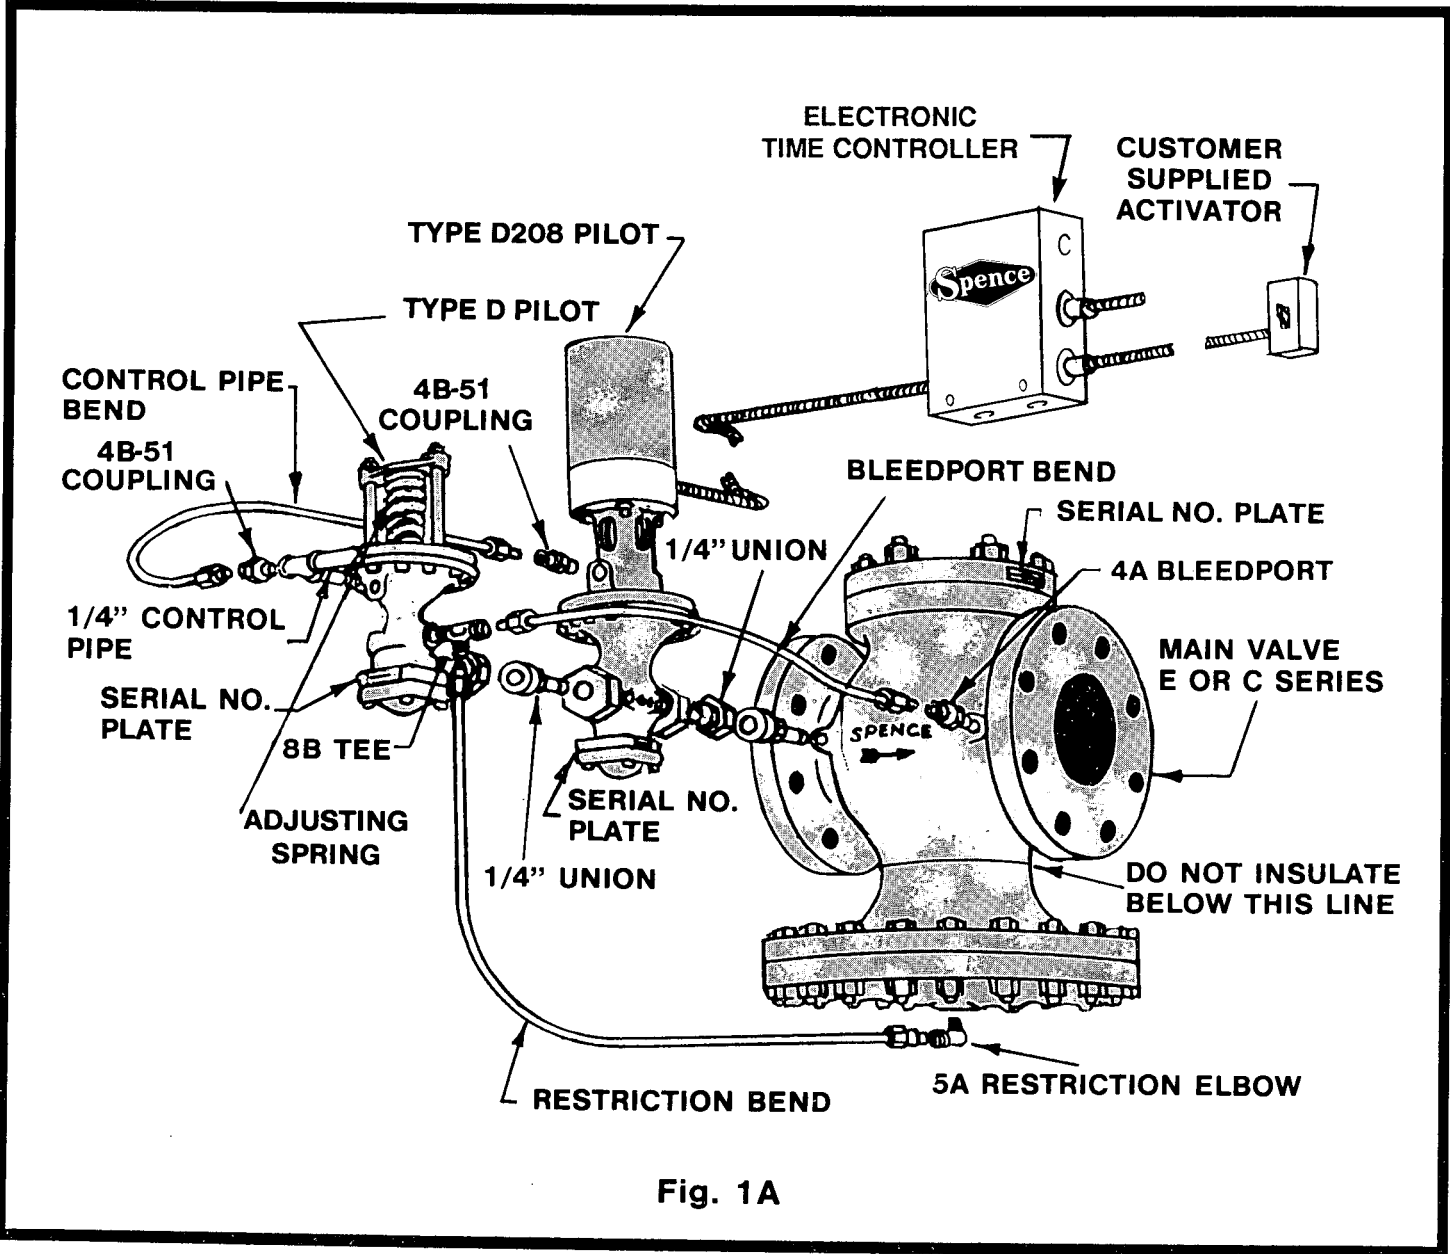
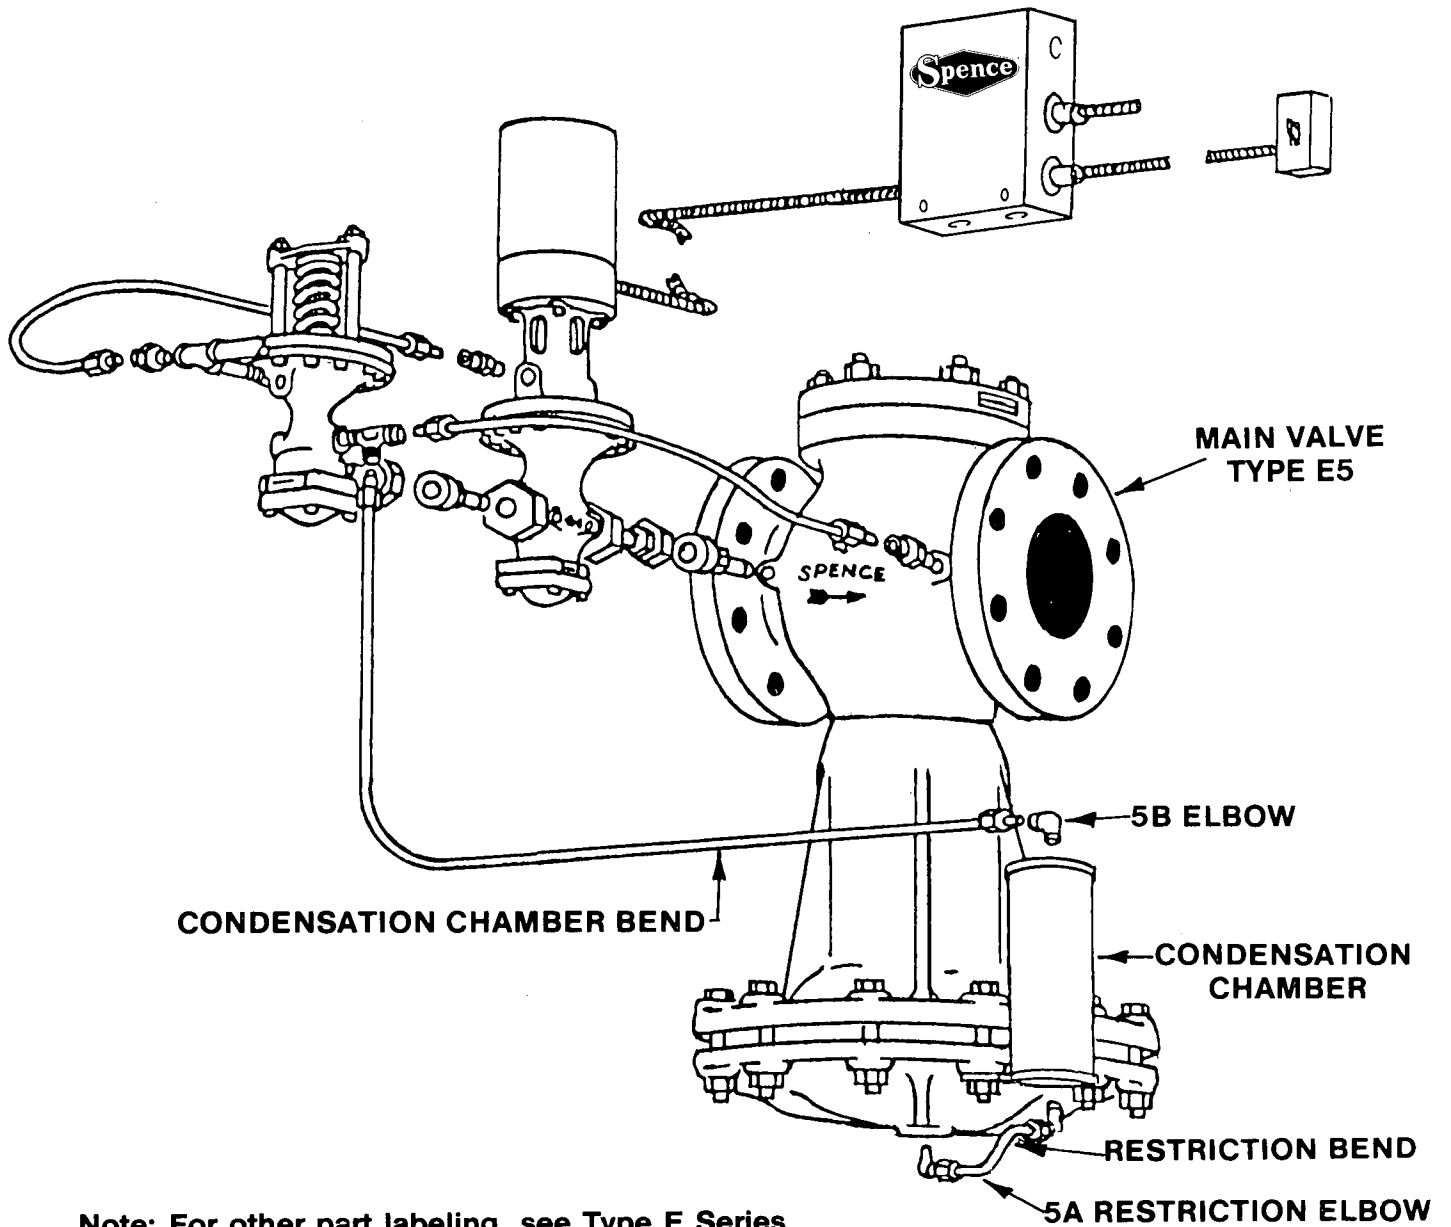
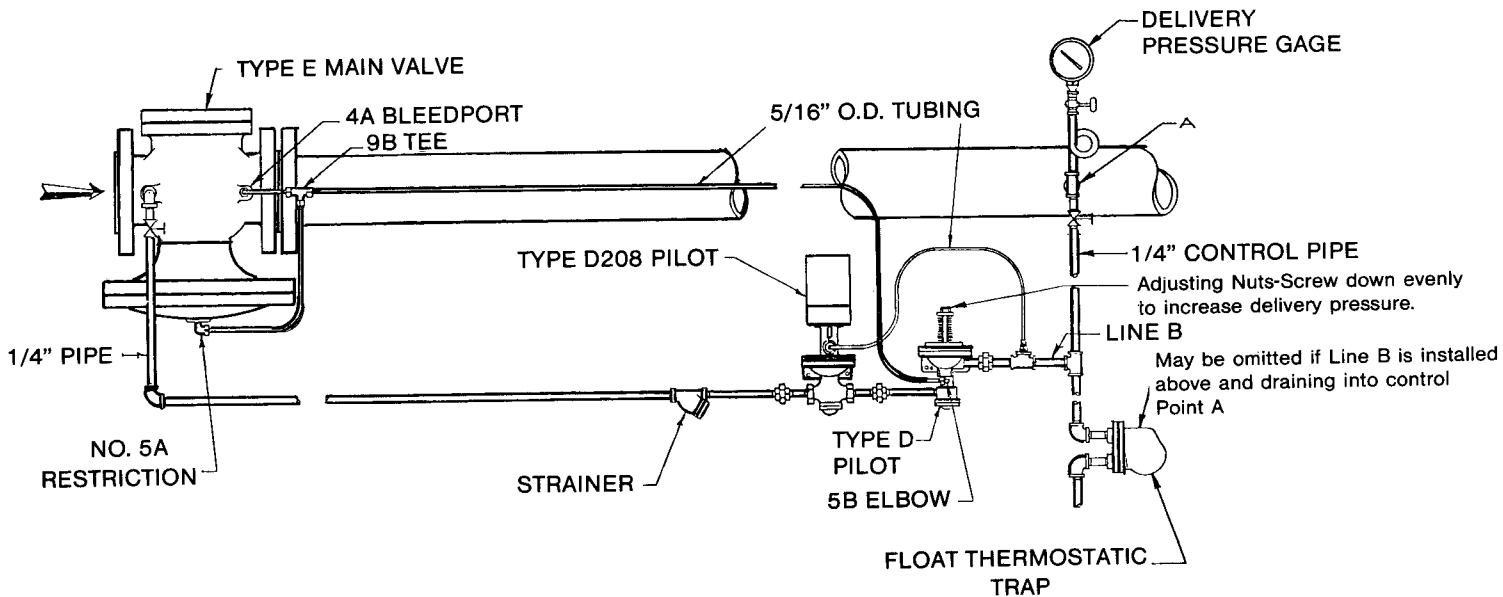

Fig. 1A
Fig. 1B
Fig. 2B-REMOTE MOUNTED D208D
1. The complete regulator, Fig. 1A), consists of a D208 Pilot with an ETC. The D208 Pilot is installed in series between a Type E Main Valve and a Type D Pilot. It provides the controlled slow opening and/or closing function while the D Pilot directs the Main Valve to maintain the delivery pressure at a preset level.
8. If it is anticipated that the ambient temperature at the Main Valve will be outside the 20° to 160°F limitations of the D208 Pilot, remote mounting of the D208 Pilot will be necessary. Fig 2B suggests a method of remote mounting the D208 Pilot. A wall bracket is also available.
4. Insulation may be applied to the upper portion (globe and flanges) of the Main Valve. Do not insulate the Diaphragm Chamber, Condensation Chamber (if used) or any part of the Pilots. See Figs. 1A and 1B.
1. Mount the D208 Pilot with the arrow on the body pointing in the direction of flow, on either side of the Main Valve, by means of the 1/4" Nipple and Union provided. Make this connection to the 1/4" pipe tap at the inlet of the Main Valve as shown in Figs. 1A and 1B. Remote mounting of the D208 Pilot, as illustrated in Fig. 2B, is recommended when the ambient temperature at the Main Valve exceeds 160°F. Caution should be taken to protect the electrical portion of the D208 Pilot from any dripping condensate.
3. Mount the D Pilot to the outlet side of the D208 Pilot by means of the 1/4" Nipple and Union provided as illustrated in Figs. 1A and 1B. In the event that the D208 Pilot was remotely mounted, Fig. 2B indicates how the D Pilot can be mounted.
11. Connect the tubing bends as illustrated in Fig 1A. Valves with Condensation Chamber are fitted up according to Fig. 1B.
2. Close the D Pilot by releasing the compression of the Adjusting Spring. See Fig. 1A.
7. Open the Inlet Stop Valve and gradually compress the D Pilot Adjusting Spring, Fig. 1A, until the Main Valve opens and takes control at the desired pressure.
- a. Adjusting Spring, Fig. 1A, may have been tampered with.
- c. Orifice in No. 5A Restriction Elbow, Fig 1A, maybe plugged. No. 4A Bleedport, Fig. 1A, may have been omitted and an open coupling substituted.